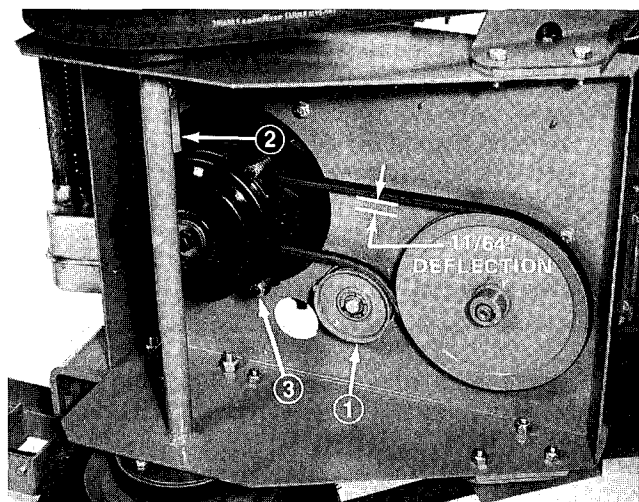

Figure 21
1. Loosen capscrew and flange nut securing idler pulley to frame (Fig. 21). Slide pulley outward relieving belt tension.
2. Remove left front engine mounting bolt securing clutch retainer to frame (Fig. 21). Unhook retainer from clutch and remove retainer.
3. Disconnect in-line wire connector and remove belt from drive pulley and clutch (Fig. 21).
6. Position and secure idler pulley to frame so belt deflection is no more than 11/64" when 5-1/2 lb force is applied to midspan of long leg of belt (Fig. 21).
1. To adjust clutch, tighten or loosen locknuts on flange studs (Fig. 21).